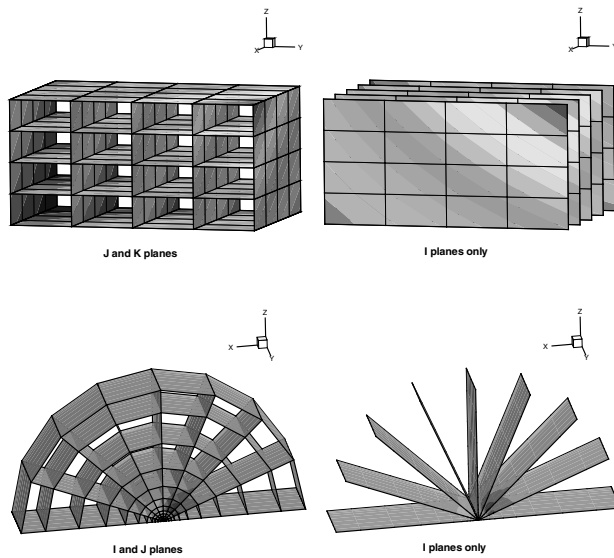

Figure 20-4. Examples of plotting I-, J-, and K-planes.
- Planes Settings (I-, J-, K-, IJ-, JK-, IK-, and IJK-planes):** These settings will plot the appropriate combination of I-, J-, and or K-planes. The planes are determined by the Range for columns to the right of the dialog. These settings are available only for IJK-ordered data. Figure 20-4 shows a number of examples of plotting I-, J-, and K-planes.